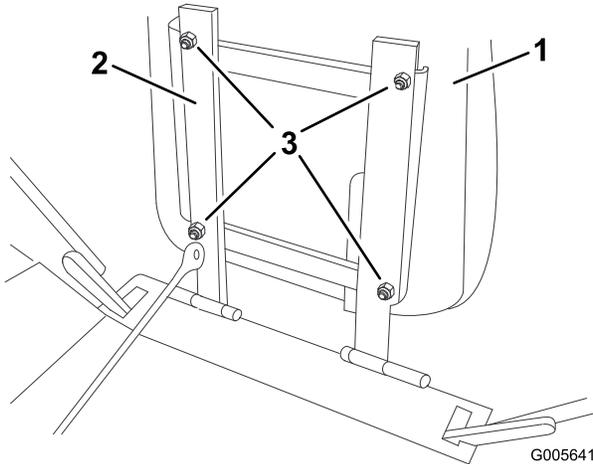

Figure 3
2. Remove the nuts holding the seat to the seat frame (Figure 3). Retain the nuts.